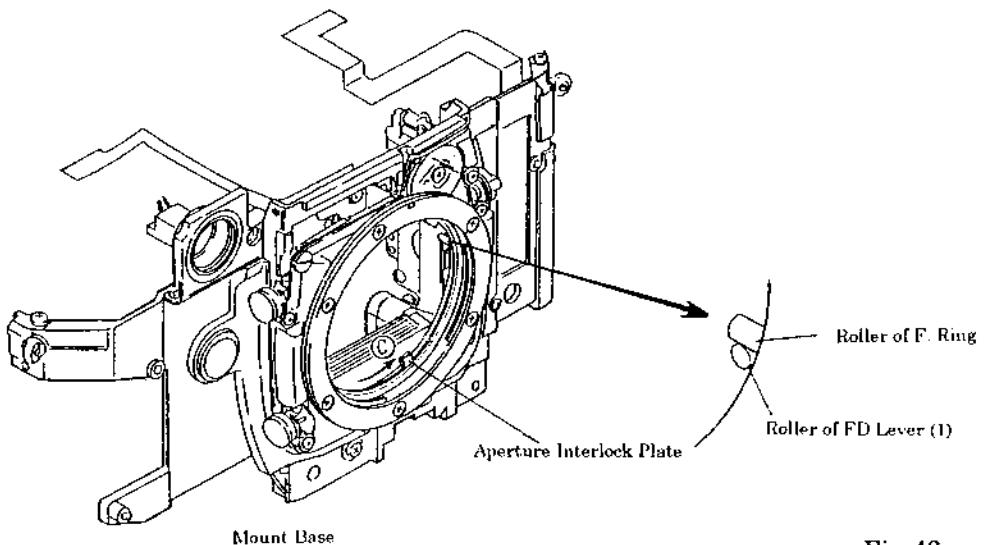

Fig.48
(See Fig. 48)
At this point, make certain that the Roller of the FD Lever (1) and the Roller of the F. Ring are installed in the position as shown in Fig. 48.